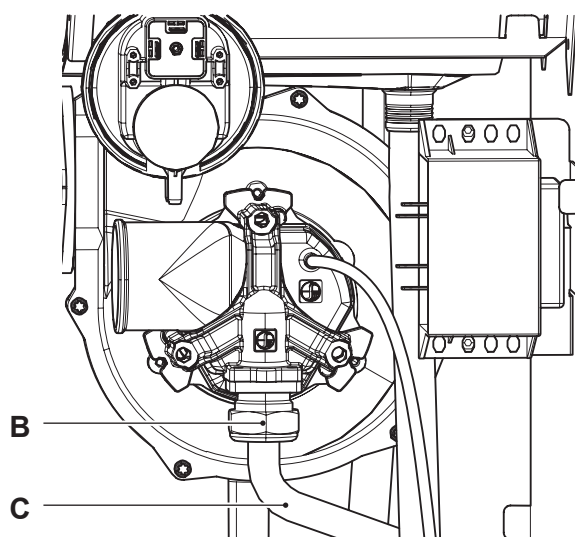

Figure 16.2
- Remove the fixing fork B and remove the gas pipe C (Figure 16.2).